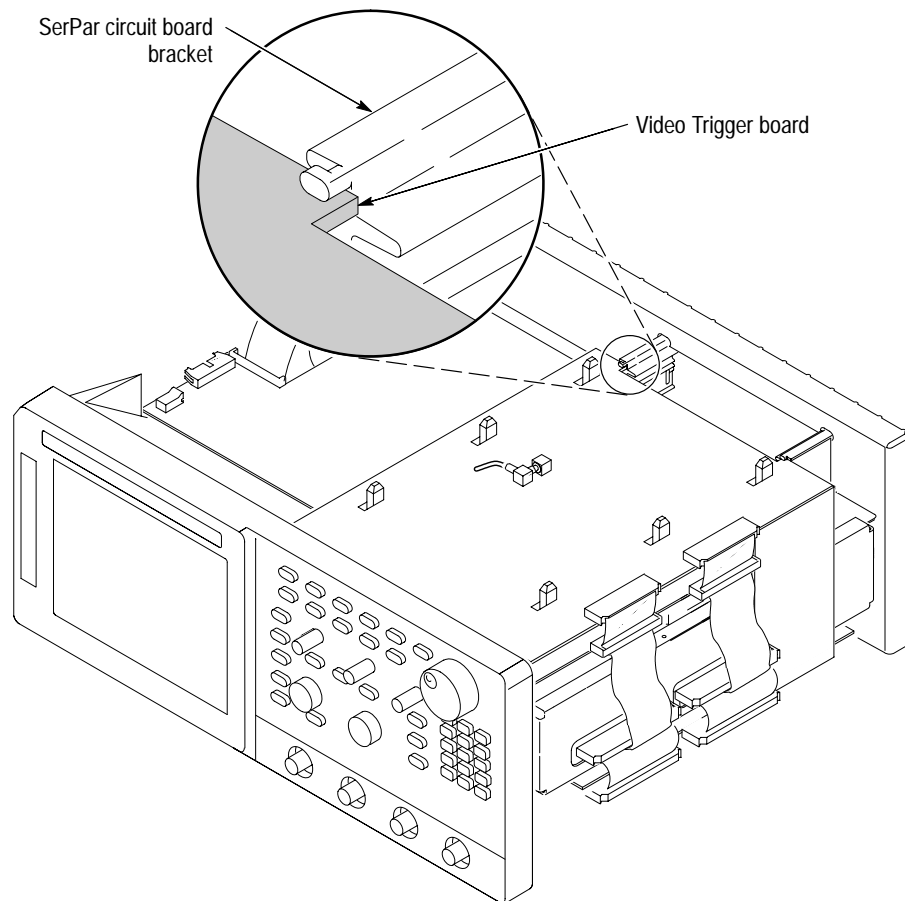

Figure 6: TV Trigger and SerPar circuit board detail
2. Make sure the A23 SerPar circuit board brackets slide over the TV Trigger circuit board. This will lock the TV Trigger circuit board A29 into place. See Figure 6.